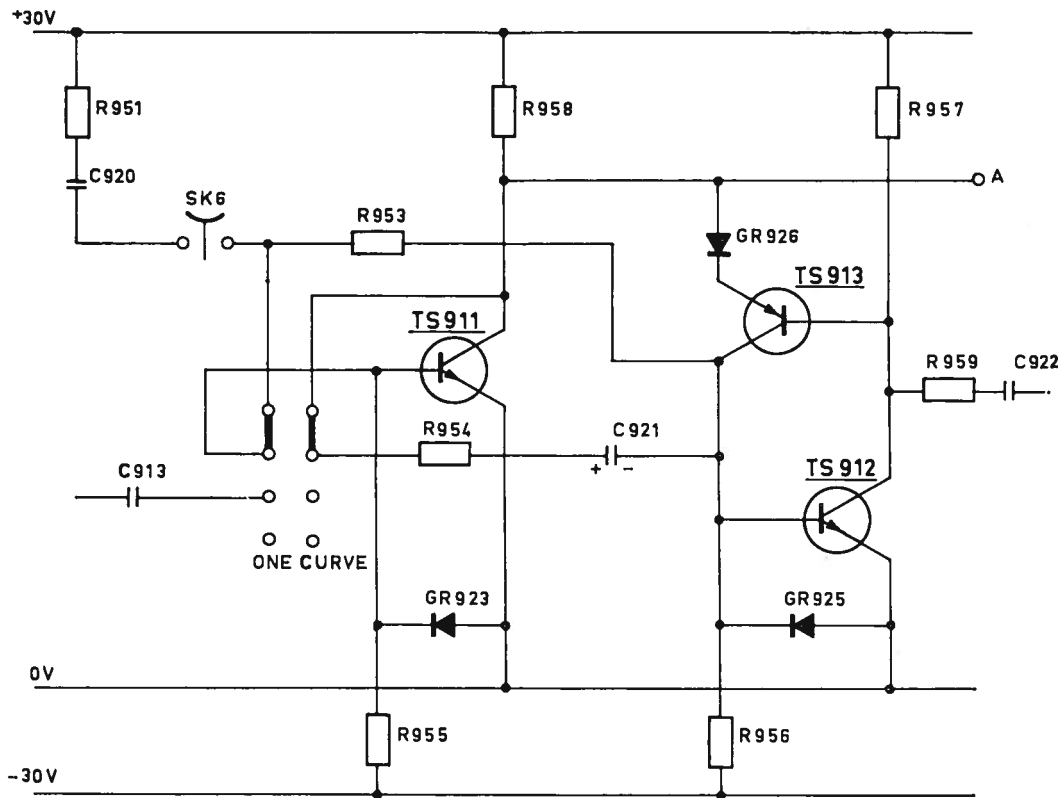

Fig. 55c. Switch position ONE CURVE
c. In switch position "ONE CURVE" (Fig. 55c) switching-over of the ring counter is effected manually by means of button SK6. The input pulses are disconnected, so that triggering by the pulse generator is not possible. When button SK6 is depressed a positive current surge arises across F951/C920, which changes over TS911. After C920 has been charged the pulse